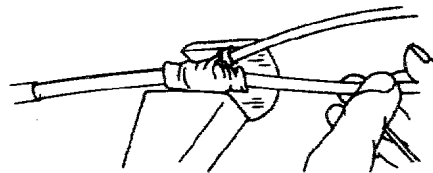

Figure 15. MG-2 Reflector
- b. MG-2. Used for heating solder termination sleeves, molded parts, and shrinking large-diameter tubing. Used for surrounding heat-shrinkable tubing and molded parts with lower-temperature air, and has to be ordered separately (Figure 15).